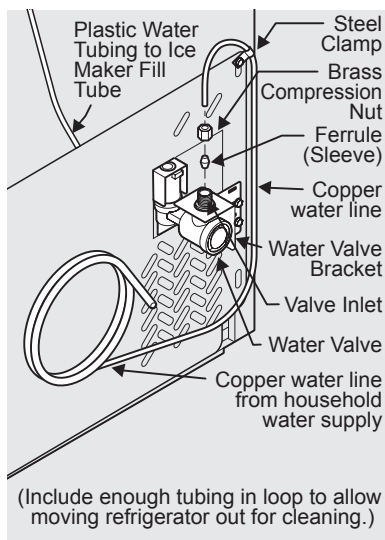

Figure 1
- 4 If you use copper tubing - Slide brass compression nut, then ferrule (sleeve) onto water supply line. Push water supply line into water valve inlet as far as it will go (1/4 inch/6.4 mm). Slide ferrule (sleeve) into valve inlet and finger tighten compression nut onto valve. Tighten another half turn with a wrench; **DO NOT** over tighten. See Figure 1.